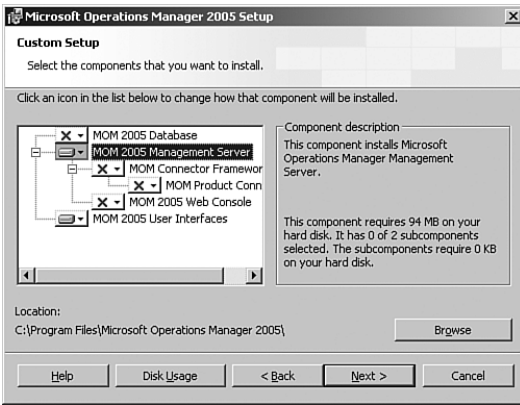

FIGURE 6.14 Custom setup for the management server and user interfaces.
3. Select Custom setup, and at the Custom Setup screen, make sure that the MOM 2005 Management Server and the MOM 2005 User Interfaces are selected, as shown in Figure 6.14.